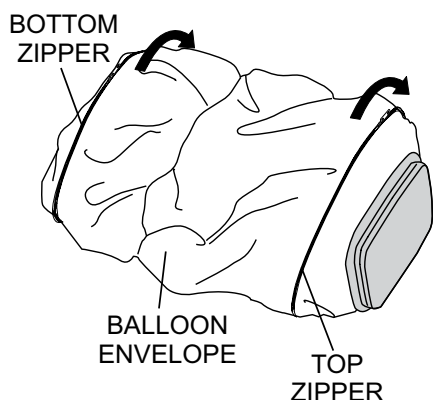

Figure 26. Unzipping the Balloon Envelope
1. Unzip the zipper (Figure 26) at the top and bottom of the balloon envelope (cover).